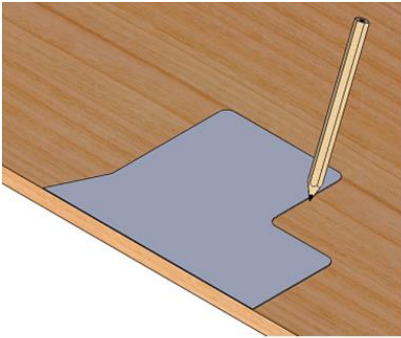
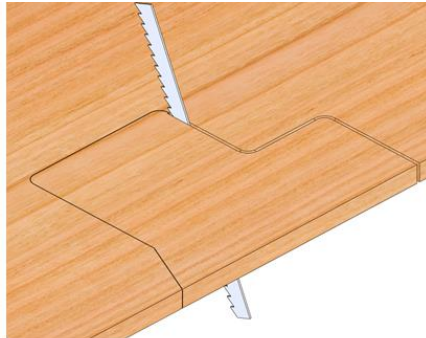

Fig 9
Fig10
- Please use assembly fixture (**optional**), prepare artificial board 20mm thick for using formwork to trace out the cutting shape(Fig9, Fig10)